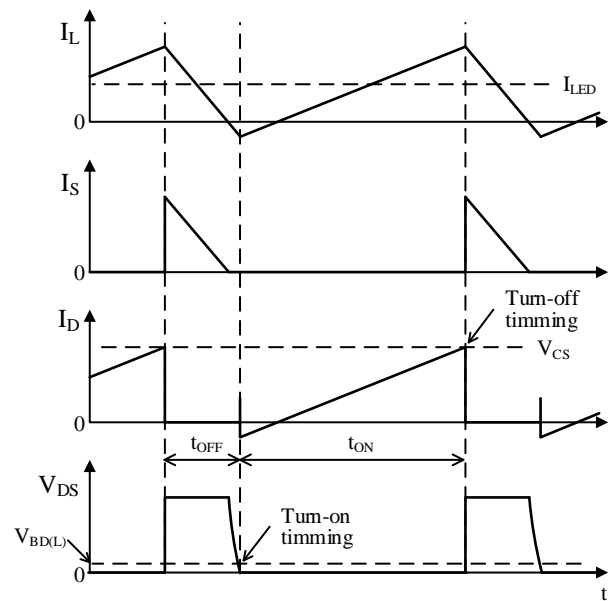

Figure 9-2. CRM Control of the LC5910S
As a result, the waveform of the inductor current, I_L , becomes triangular as shown in Figure 9-2. The LED current, I_{LED} , is half of the peak value of the inductor current, I_L .
As shown in Figure 9-2, the LED current, I_{LED} , is controlled so that the peak of the inductor current, I_L , at the power MOSFET turn-on is equal to the reference voltage, V_{CS} , set by the SEL pin. When the power MOSFET turns off, the energy stored in the inductor is regenerated through the freewheeling diode, D_S , and the power MOSFET turns on at the timing of the end of energy regeneration. By repeating this, the waveform of the I_L becomes triangular with the current determined by the R_{CS} and the V_{CS} at the top, and the I_{LED} is controlled to be half of the peak value of I_L . The I_{LED} is calculated by the Equation (1).